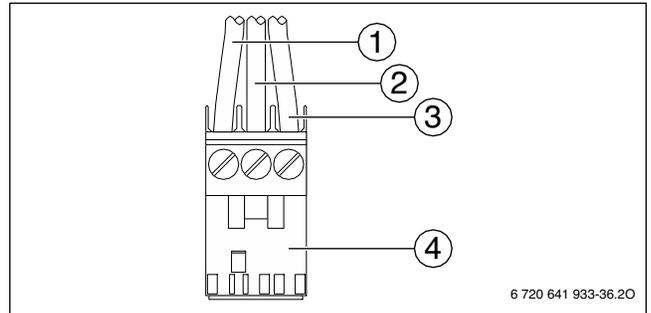

Fig. 56 Attach plug (mains power supply)
- Connect cable to **the white plug** according to Fig. 56.
- ▶ Connect the lead labeled BOILER GROUND (green) to pin 2 (center, → Fig. 56 [2]) of the white plug in the boiler junction box.